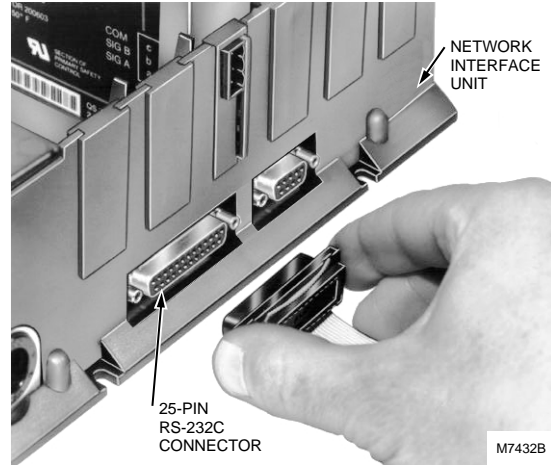

Fig. 3. RS-232 Interface insertion (serial communications).
9. Connect the serial port of the personal computer to the 25-pin RS-232C port on the Network Interface Unit for local personal computer application, see Fig. 3.